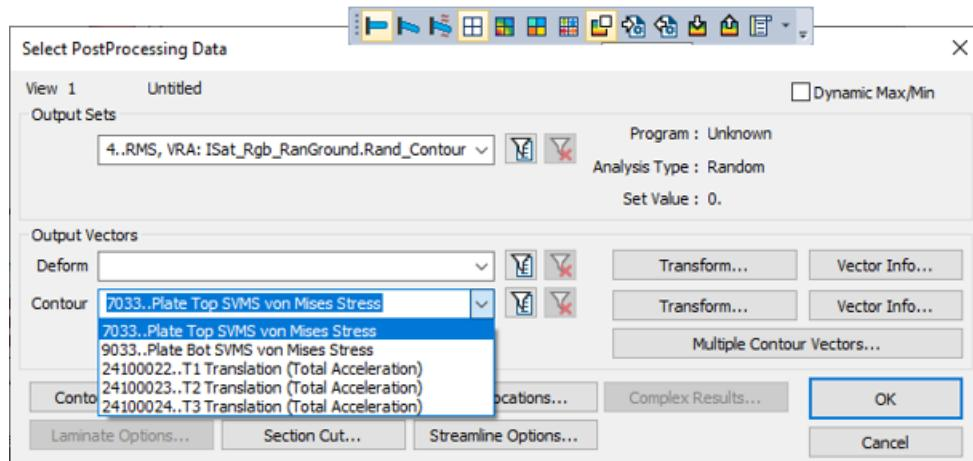

Figure 4-46. Select von Mises Stress for the first contour plot and turn off averaging.
- When the solver has finished, click the **Output** tab's **Plot Contour** button to examine the results in Femap. Use Femap's  toolbar button to open the *Select PostProcessing Data* dialog (Figure 4-46). Select *Plate Top von Mises* from the *Contour* pulldown. Click **OK** to display the contours.